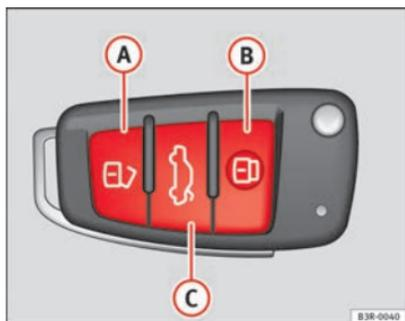

Fig. 78 Remote control key: Control buttons
- Press button **A** ⇒ Fig. 78 for about 1 second.